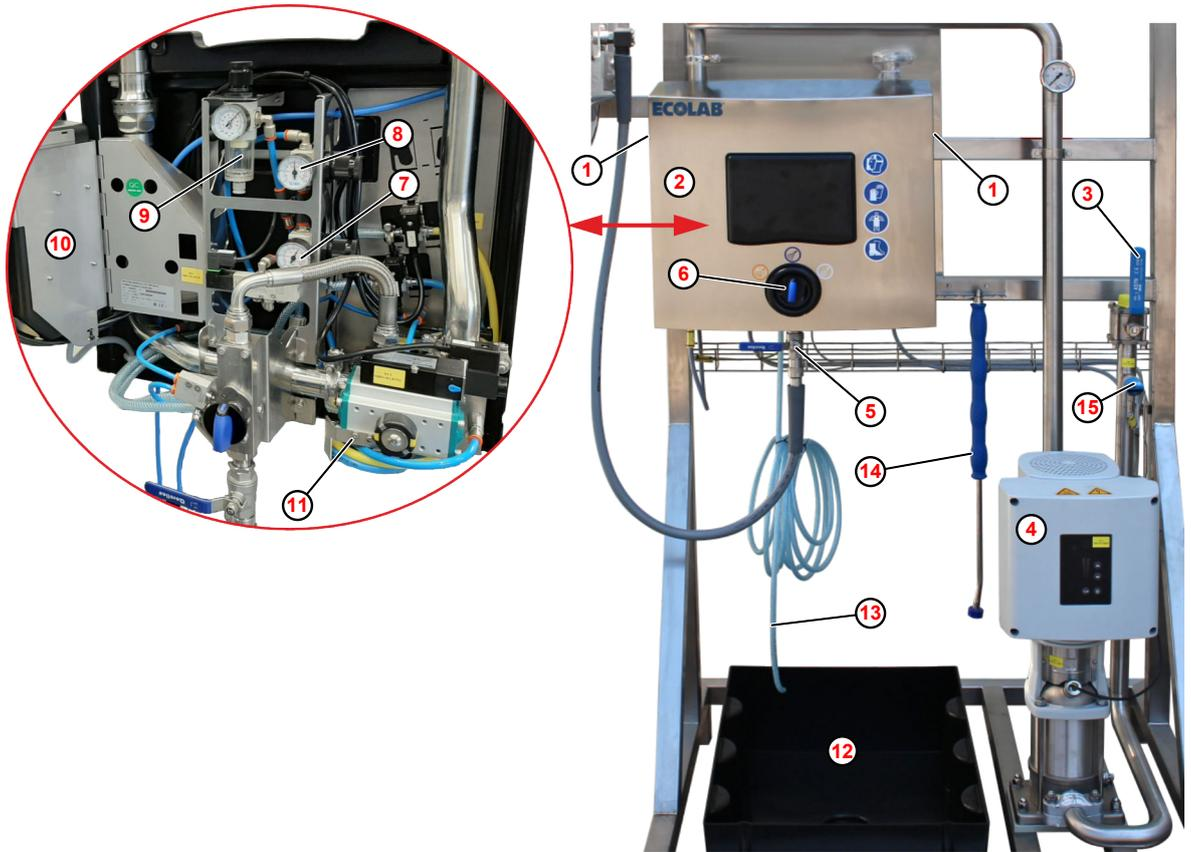

Fig. 32: Foamatic satellite with connections and compressed air supply
2. ➤ Remove the Torx screws, see Fig. 32 ① on the cover ⑩ of the Foamatic satellite and remove the cover.
4. ➤ In case of leakage, close the shut-off valve ③ for the water supply (position [CLOSED] / horizontal).